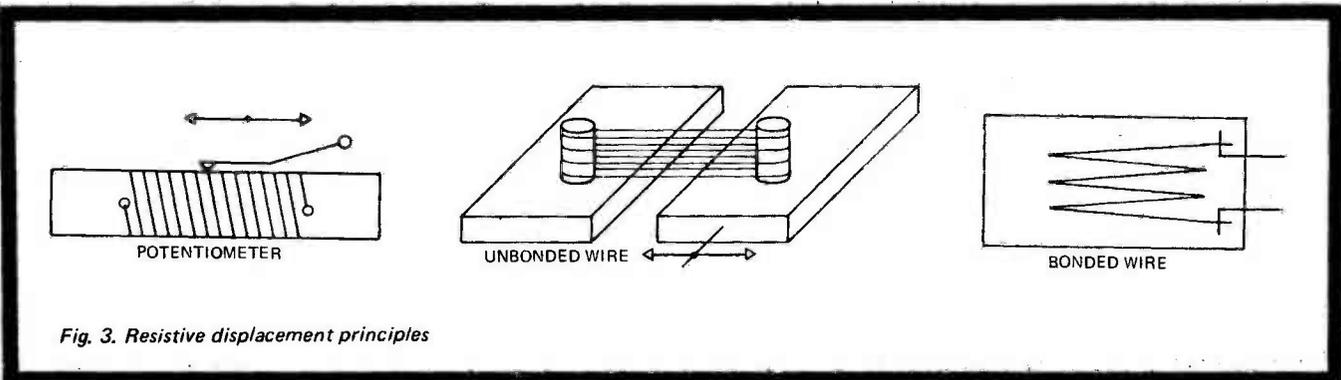

Fig. 3. Resistive displacement principles
Some of the important physical features existing at Mars on arrival are illustrated in Figures 1, 2, and 3. Figure 1 presents the locations of Mars in its orbit, Figure 2, the temperature as a function of latitude, and Figure 3, the extent of the polar caps and wave of darkening.
**Resistive:** The simplest way to transduce movement into electrical signals is mechanically to vary the properties of a resistance. This can be realised by direct mechanical movement of the tapping point, as in a potentiometer, or by straining the resistance element, as in a strain gauge, (Fig. 3).